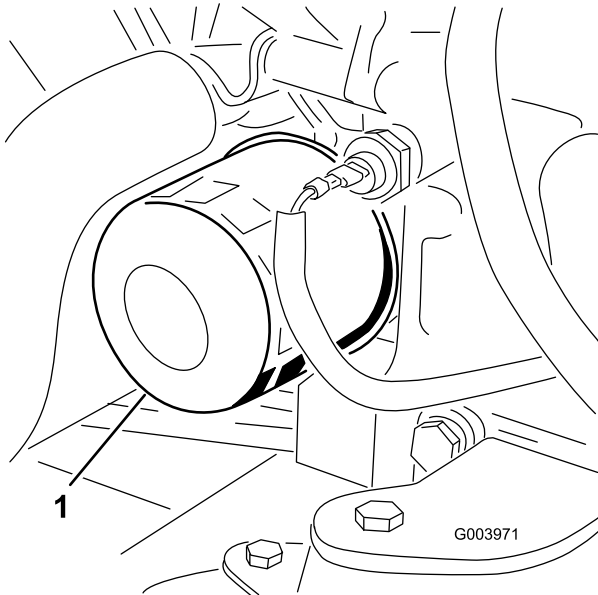

Figure 41
3. Remove the oil filter (Figure 41).